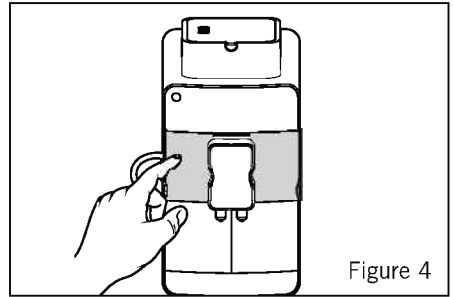

Figure 4
- Press the left side of the door with the coffee dispensing unit to open it. See Figure 4.